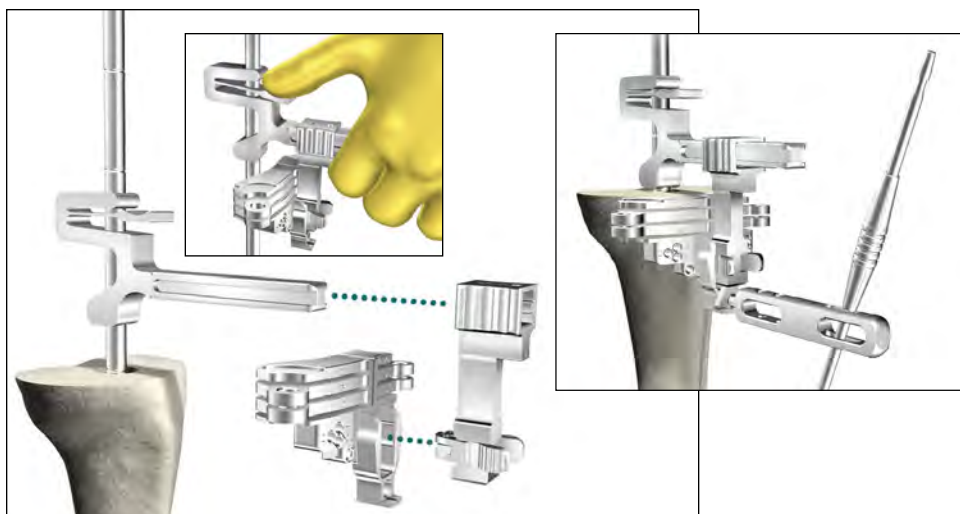

Figure 3
- Slide the Resection Guide Tower over top of the IM Reamer by depressing the finger tab as shown (**Figure 3 inset**). Assemble the Revision Tibial Resection Guide to the Support Arm Assembly. Slide the assembly on to the Resection Guide Tower. Set distal/proximal resection level and rotation by depressing the finger tab on the Resection Guide Tower.